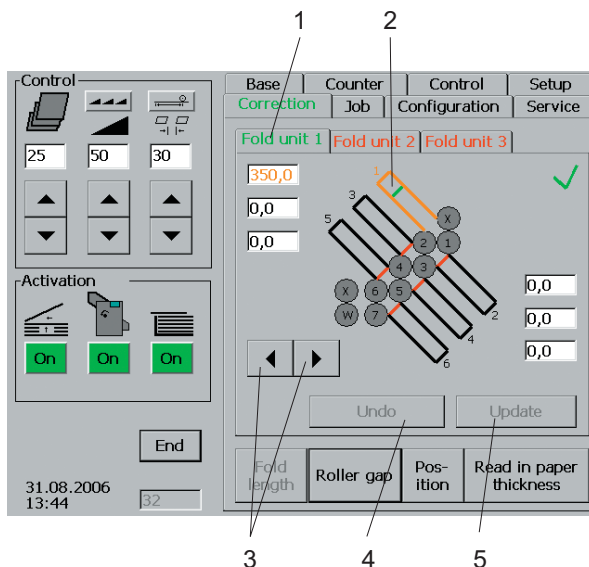

Fig. 31 Correction of fold length
1. Select the desired fold unit and touch the appropriate key (Fig. 31/1) (script colour changes).
2. Touch the symbol of the fold plate (Fig. 31/2) where the fold length has to be corrected (fold plate and matching input window turn orange).
3. Keep pressing the *arrow* key (Fig 31/3) until the correction value is reached.
You can cancel incorrect entries with the *Undo* key (Fig. 31/4).
4. When the correction entries are complete, touch the *Update* key (Fig. 31/5).